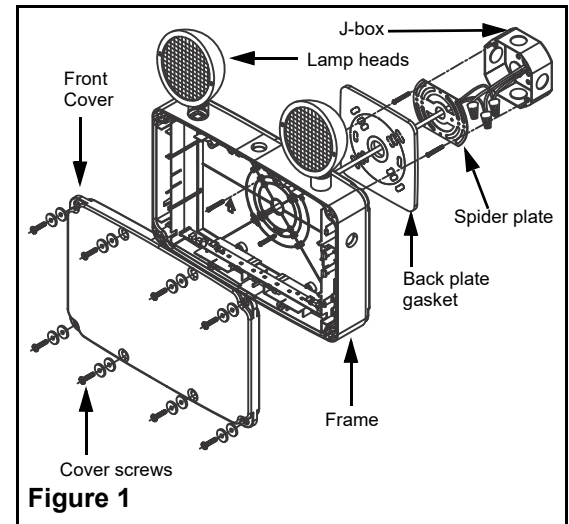

Figure 1
3. Open unit by loosening screws on front cover (Fig. 1 & 2).
### Wall mounting (Figure 1)